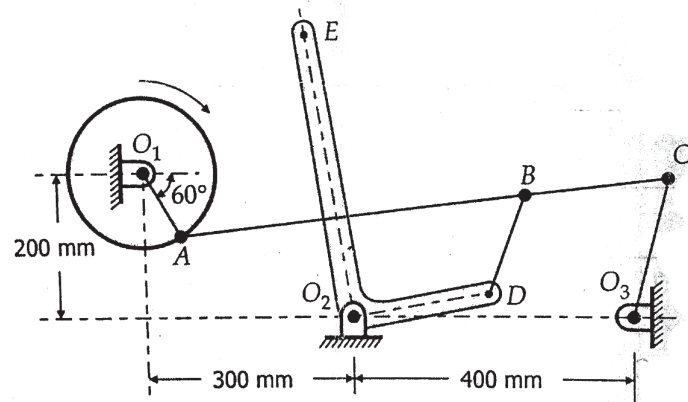

Fig. 1. (a)
5. (a) A mechanism is shown in Fig. 1, determine velocity of E of the bell crank lever by ICR method